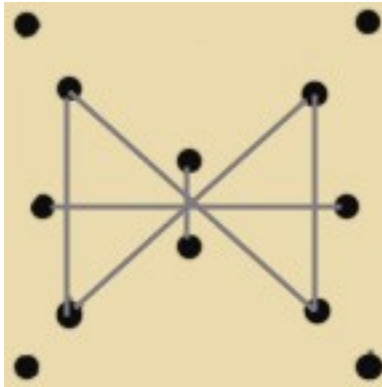

Figure 5
- 6) Using the same method, stitch the cross over top of the bow in the same manner (fig 5). For added detail, work the stitches twice so the wire appears doubled.